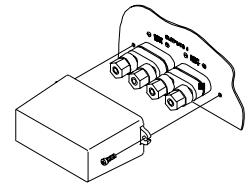

Figure 7
5. Attach the supplied Terminal Connection Covers with the four Pan Head Mounting Screws (6-32 x 5/16 inch) to the Rear Panel of the MC202 Amplifier. Refer to figures 7 and 8.